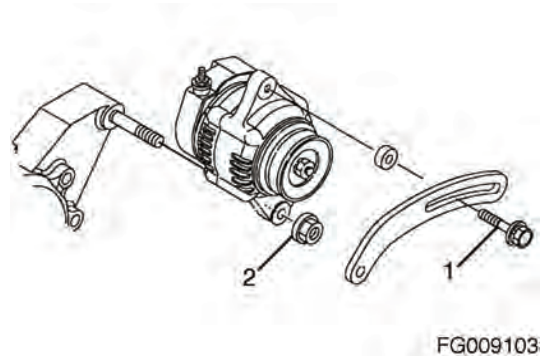

Figure 401
1. Position the alternator on the gear case. Loosely reinstall the nut (2, Figure 401) on the gear case stud and the V-belt adjuster bolt (1, Figure 401).